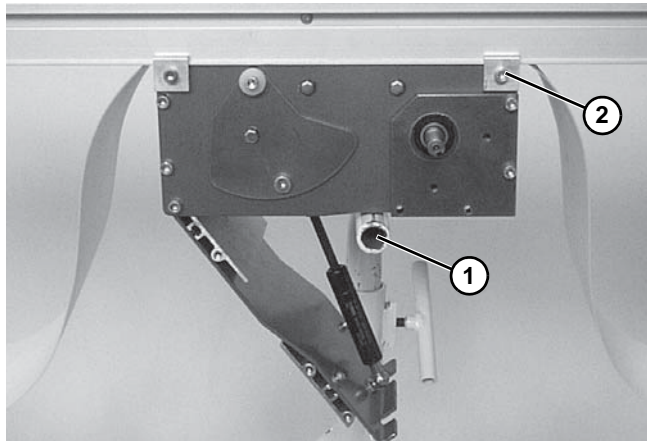

Figure 35
1. Place temporary support (**Figure 35, item 1**) underneath the drive module.
2. Loosen clamp screws (**Figure 35, item 2**) on each corner of the module. Remove the module.
5. Install the drive module onto the conveyor and attach clamps (**Figure 35, item 2**) in each corner. Tighten screws to 80 in-lb (9 Nm).